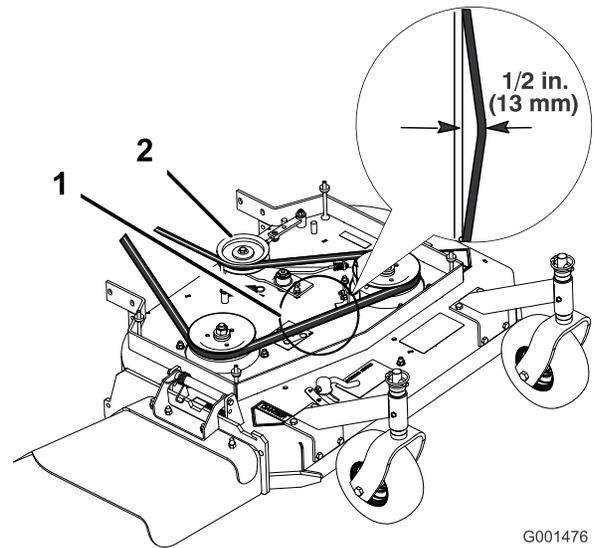
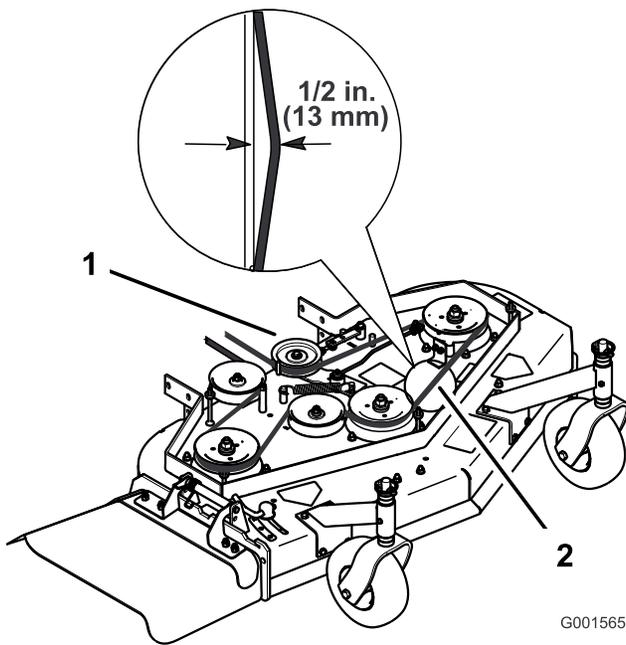

Figure 42
Figure 43
Note: The proper mower belt tension is 44 to 67 N-m (10 to 15 ft-lb) with the belt deflected 13 mm (1/2 inch) halfway between the pulleys (Figure 42 or Figure 43).
3. Loosen the locknut on the turnbuckle (Figure 42).
4. Rotate the turnbuckle toward the rear of the mower to increase the tension on the belt. Rotate the turnbuckle toward the front of the mower to decrease the tension on the belt (Figure 42).
Note: The proper mower belt tension is 44 to 67 N-m (10 to 15 ft-lb) with the belt deflected 13 mm (1/2 inch) halfway between the pulleys (Figure 42).
Note: The proper mower belt tension is 44 to 67 N-m (10 to 15 ft-lb) with the belt deflected 13 mm (1/2 inch) halfway between the pulleys (Figure 43).